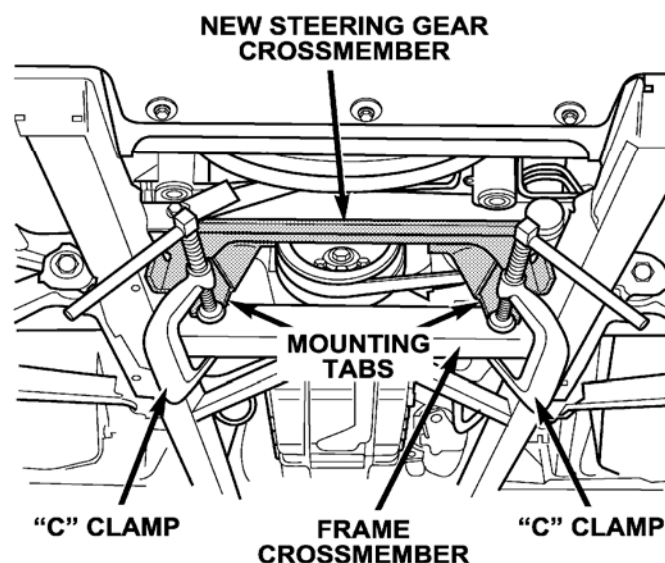

Figure 6
10. Using two “C” clamps, carefully clamp the new steering gear crossmember into position. Center the steering gear crossmember between the frame rails and use the measurements recorded in Step 5 to set new steering gear crossmember to the correct height (Figure 6).